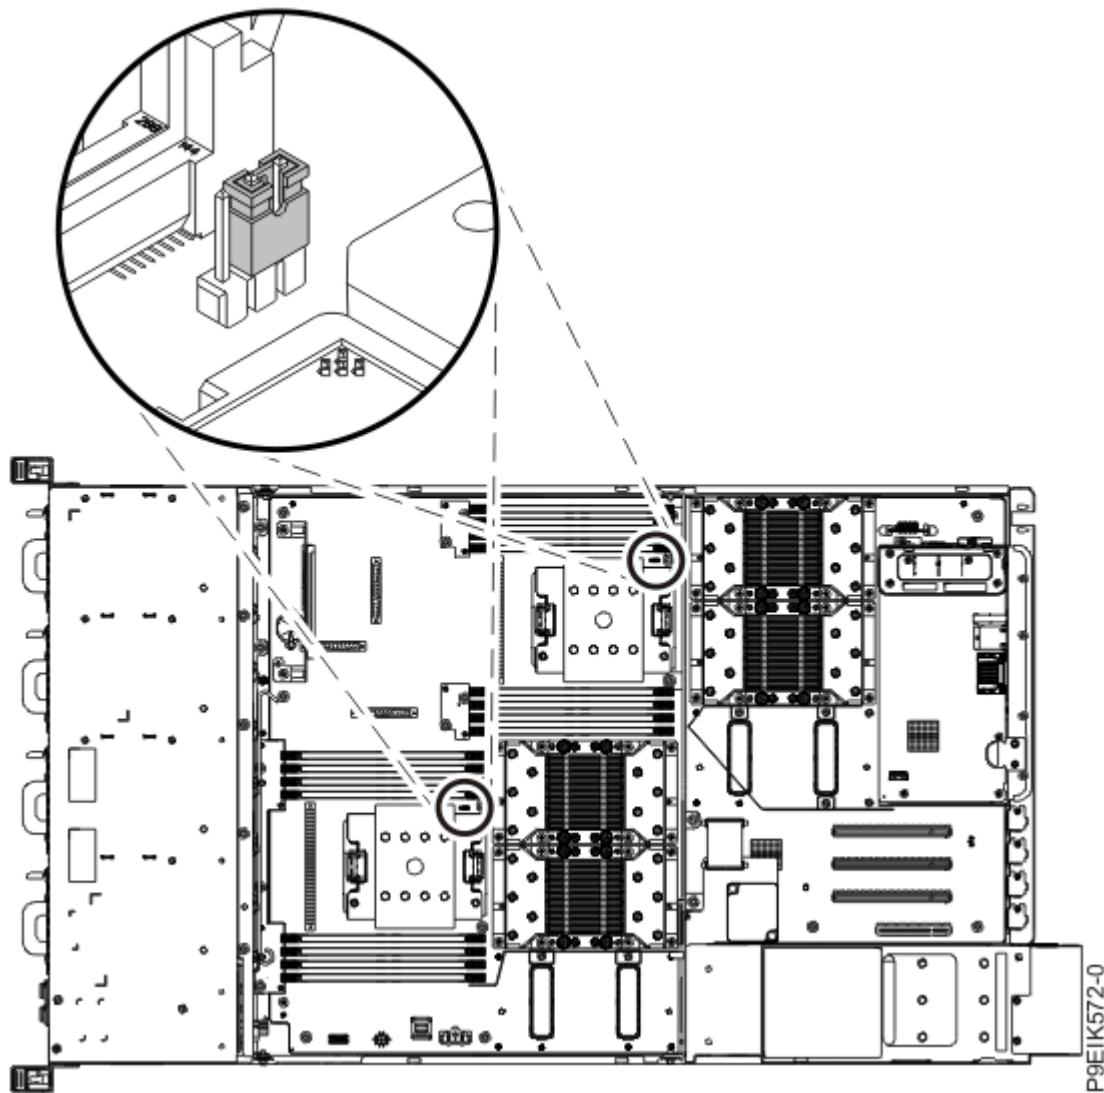

Figure 77. System processor jumper positions
5. Install the system processor jumpers on the system backplane as shown in Figure 77 on page 127.